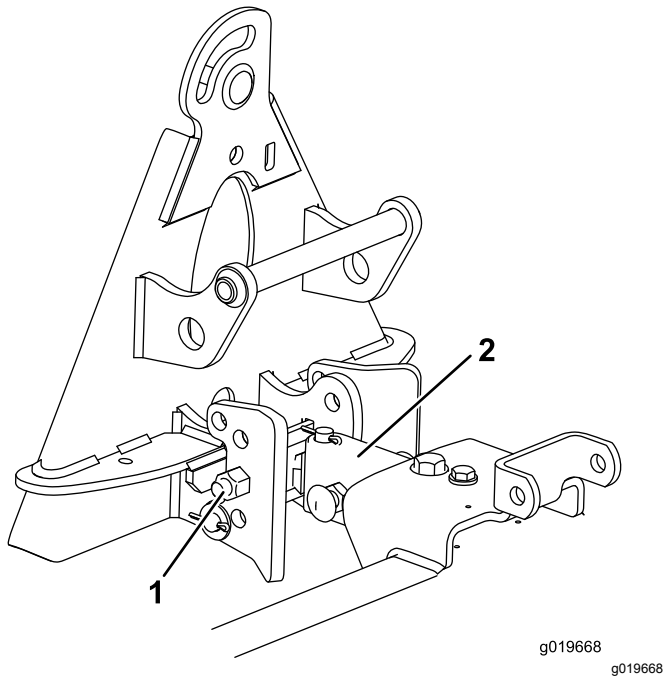

Figure 12
1. Mount the hitch assembly in the lower holes of the stop bracket (Figure 12).
2. Align the longer side of the tongue tube up and assemble it to the underside of the hanger assembly (Figure 12).